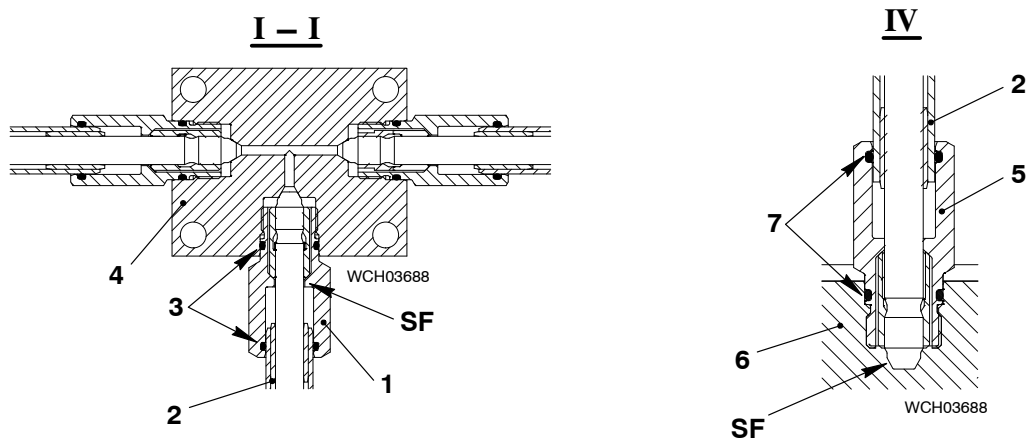

Fig. 2
- 1) Remove the pipe clip (1).
- 2) Put an oil tray under the applicable pilot fuel pipe (2, Fig. 2).
- 3) Loosen the coupling nut (1) a maximum of two turns.
- 4) Loosen the coupling nut (5) a maximum of three turns.
- 6) Carefully remove the HP pilot fuel pipe (3) from the distributor blocks (4, 6).